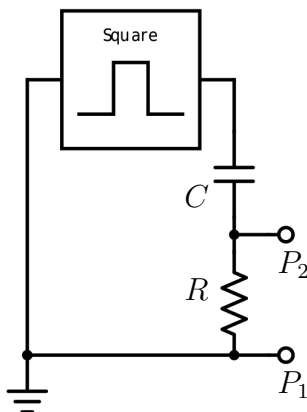

Figure 3: Circuit diagram with resistors in series and parallel.
- 2) Calculate the RC time constant for the circuit in Fig. 3.
Build the circuit shown in Fig. 3, using the same values as in the previous section. With the scope ground shield *always* plugged into ground at P_1 verify that the output of the function generator is indeed a square wave.